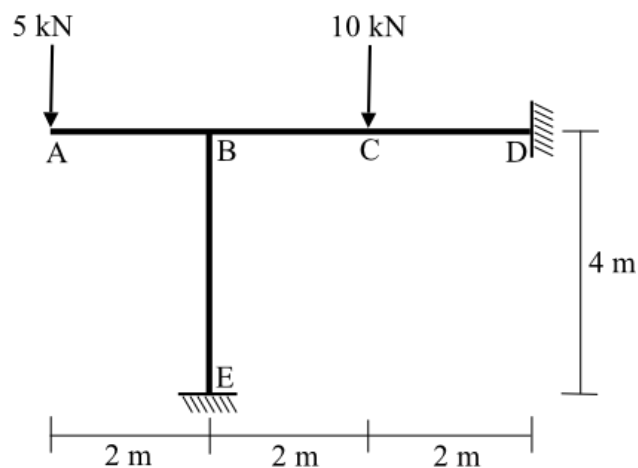

Figure 1 / Rajah 1
1. **Figure 1** shows a frame with overhang portion AB carrying concentrated loads of 10 kN at C and 5 kN at A. Supports D and E are fixed. EI is constant for the frame.